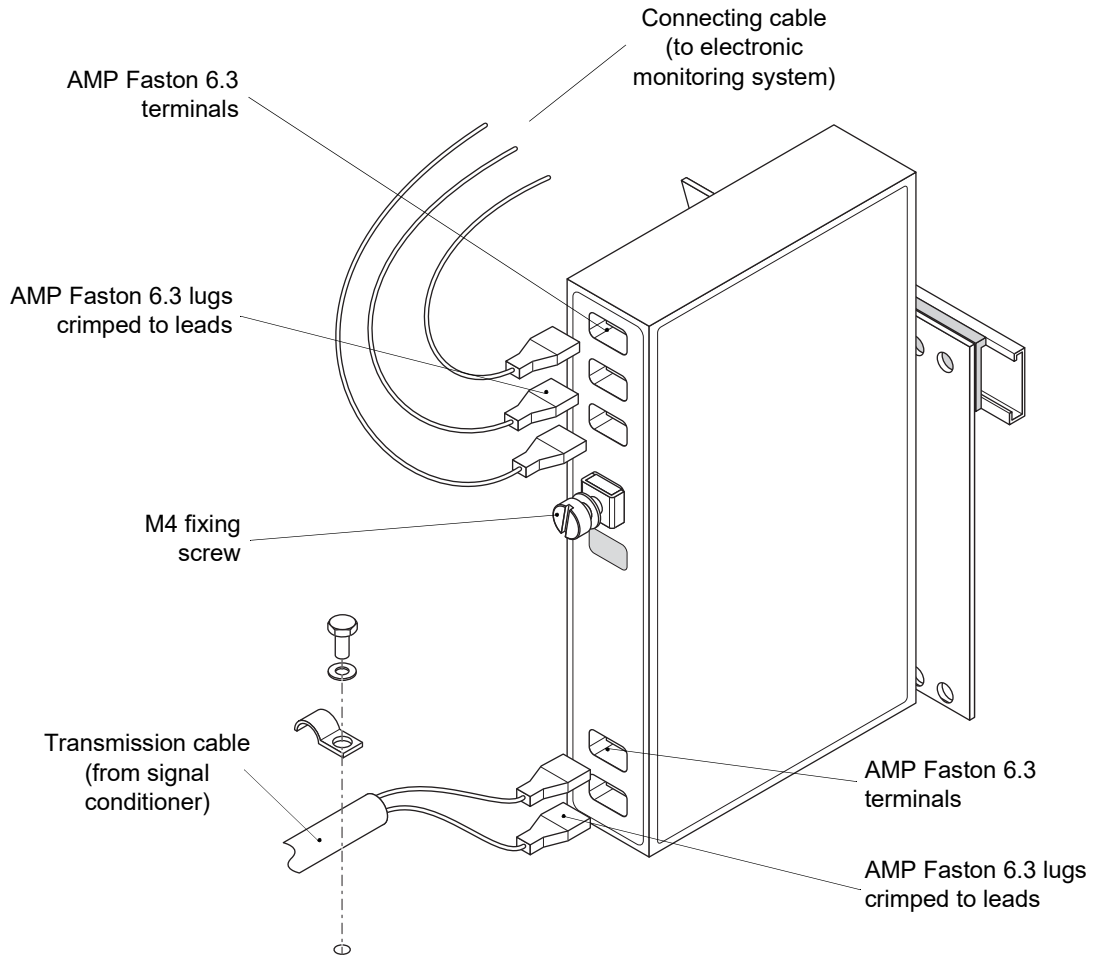
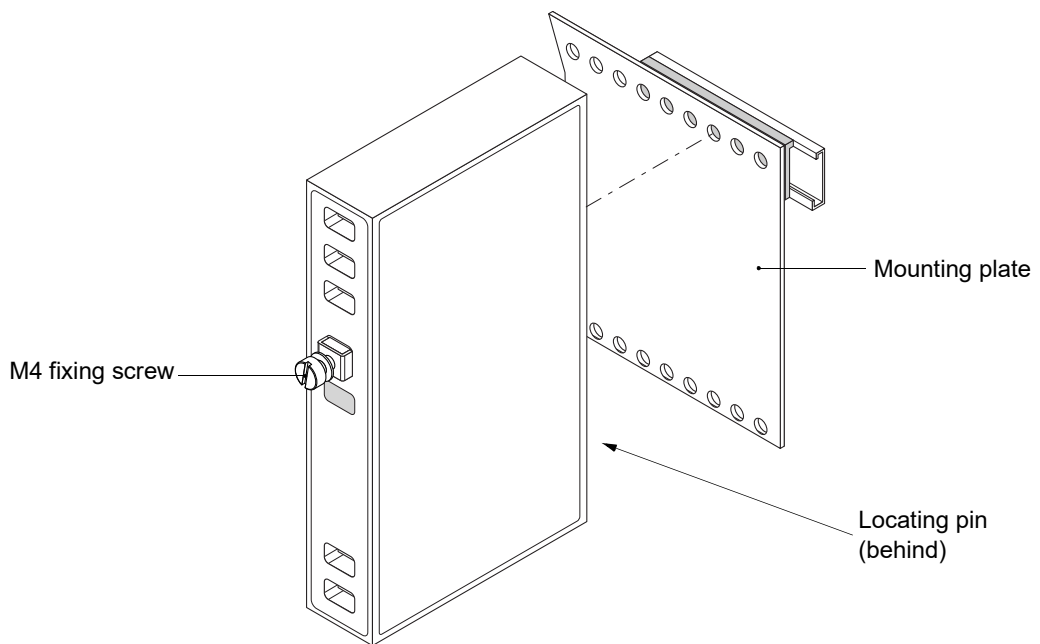

Figure 5-4: A GSI123 galvanic separation unit
Figure 5-5: The mounting plate used by GSI123 galvanic separation units
A GSI123 galvanic separation unit is generally mounted in an industrial housing, rack or cabinet. This unit is normally installed on a dedicated mounting plate using a locating pin and a fixing screw (see Figure 5-5). The transmission cable from the sensor-side circuitry and the connecting cable to the monitor-side circuitry are connected to the GSI123 using AMP Faston 6.3 lugs (see Figure 5-4) that are crimped to the wires.
- 2- Identify each wire for both the transmission cable from the sensor-side and the connecting cable to the monitor-side that are connected to the GSI123. See Figure 5-4 and use Table 5-2 to record the number and/or colour for each wire.
- 5- Undo the M4 fixing screw until the GSI123 has been uninstalled and disassemble the mounting plate from the DIN rail (see Figure 5-5).